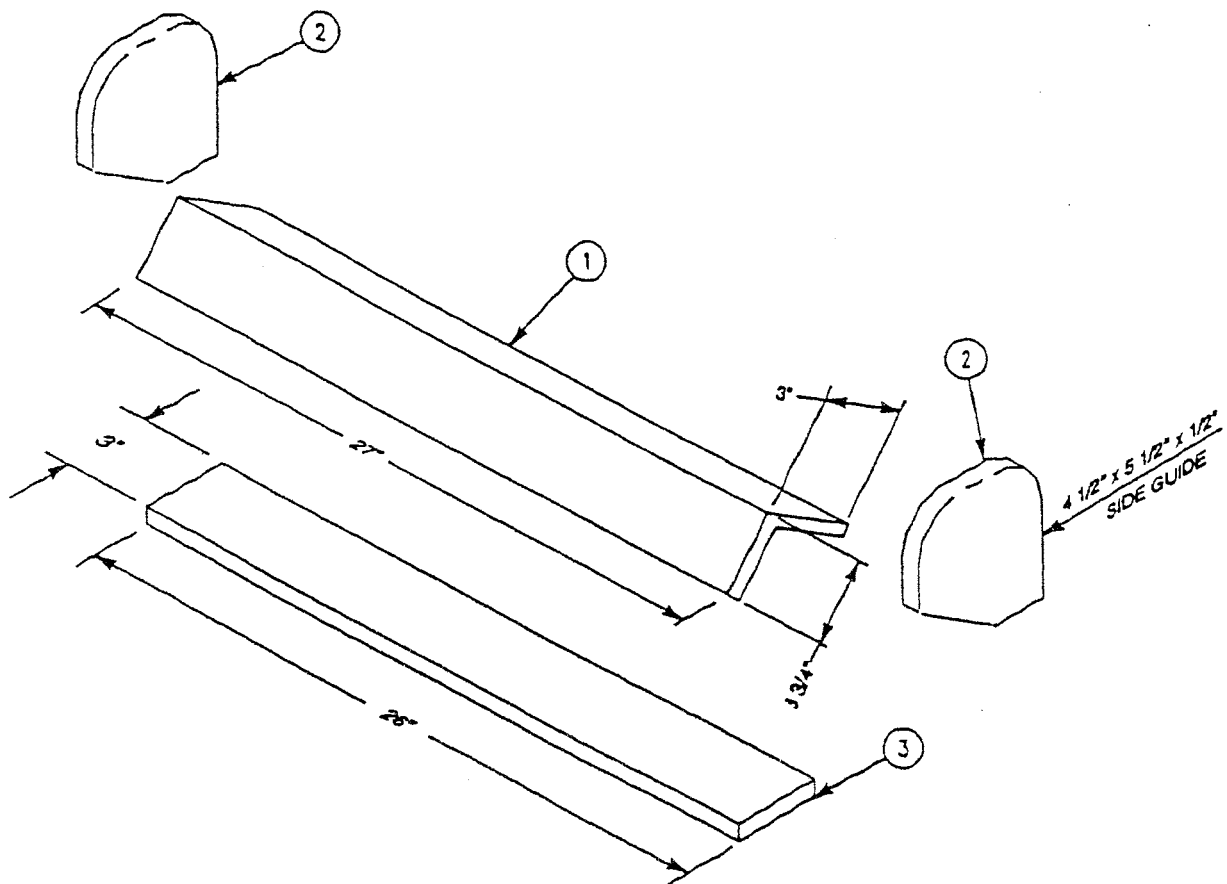
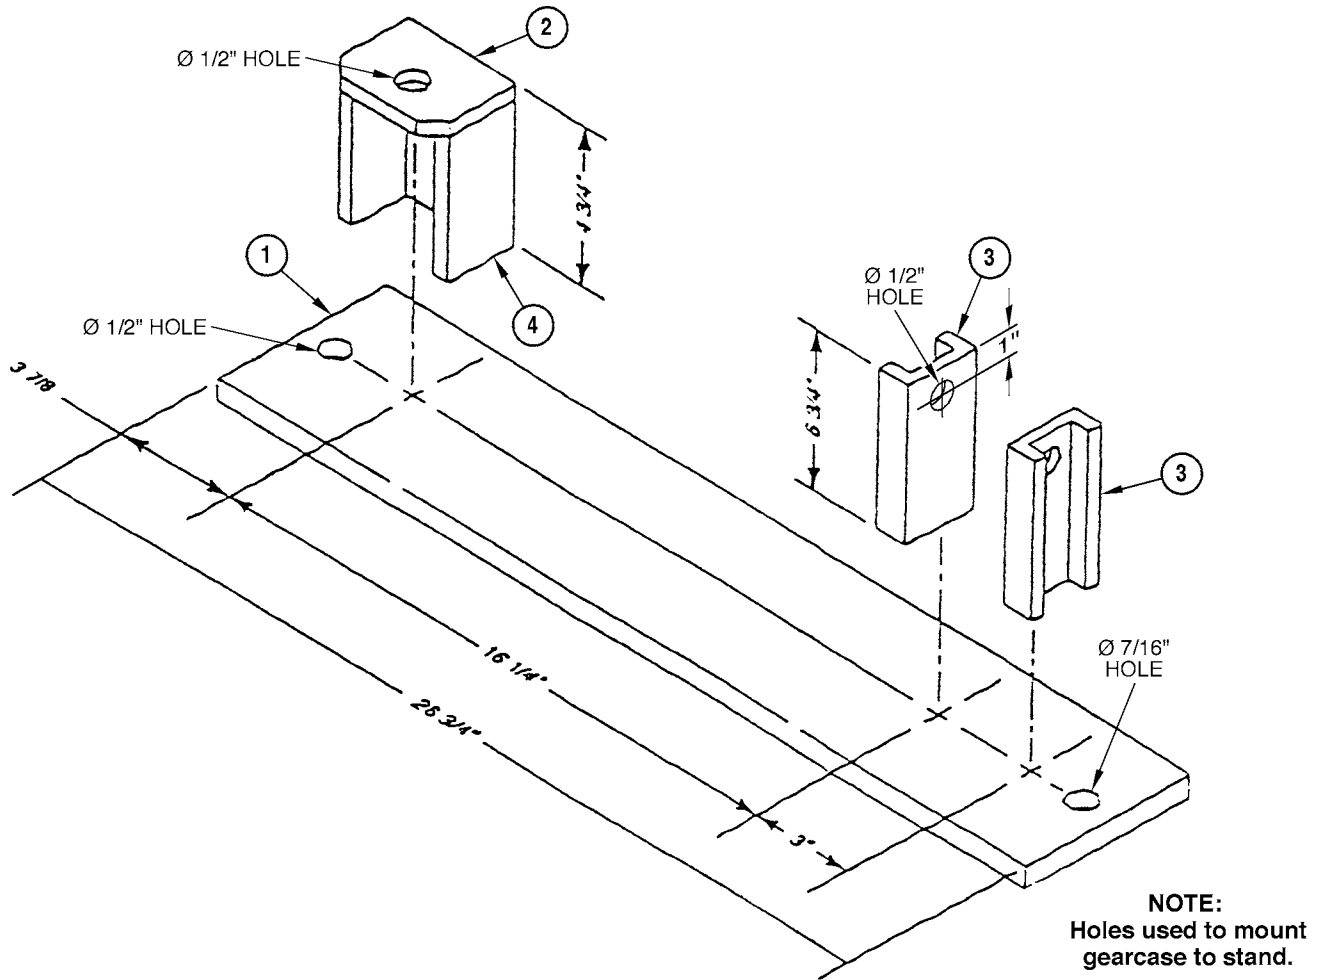
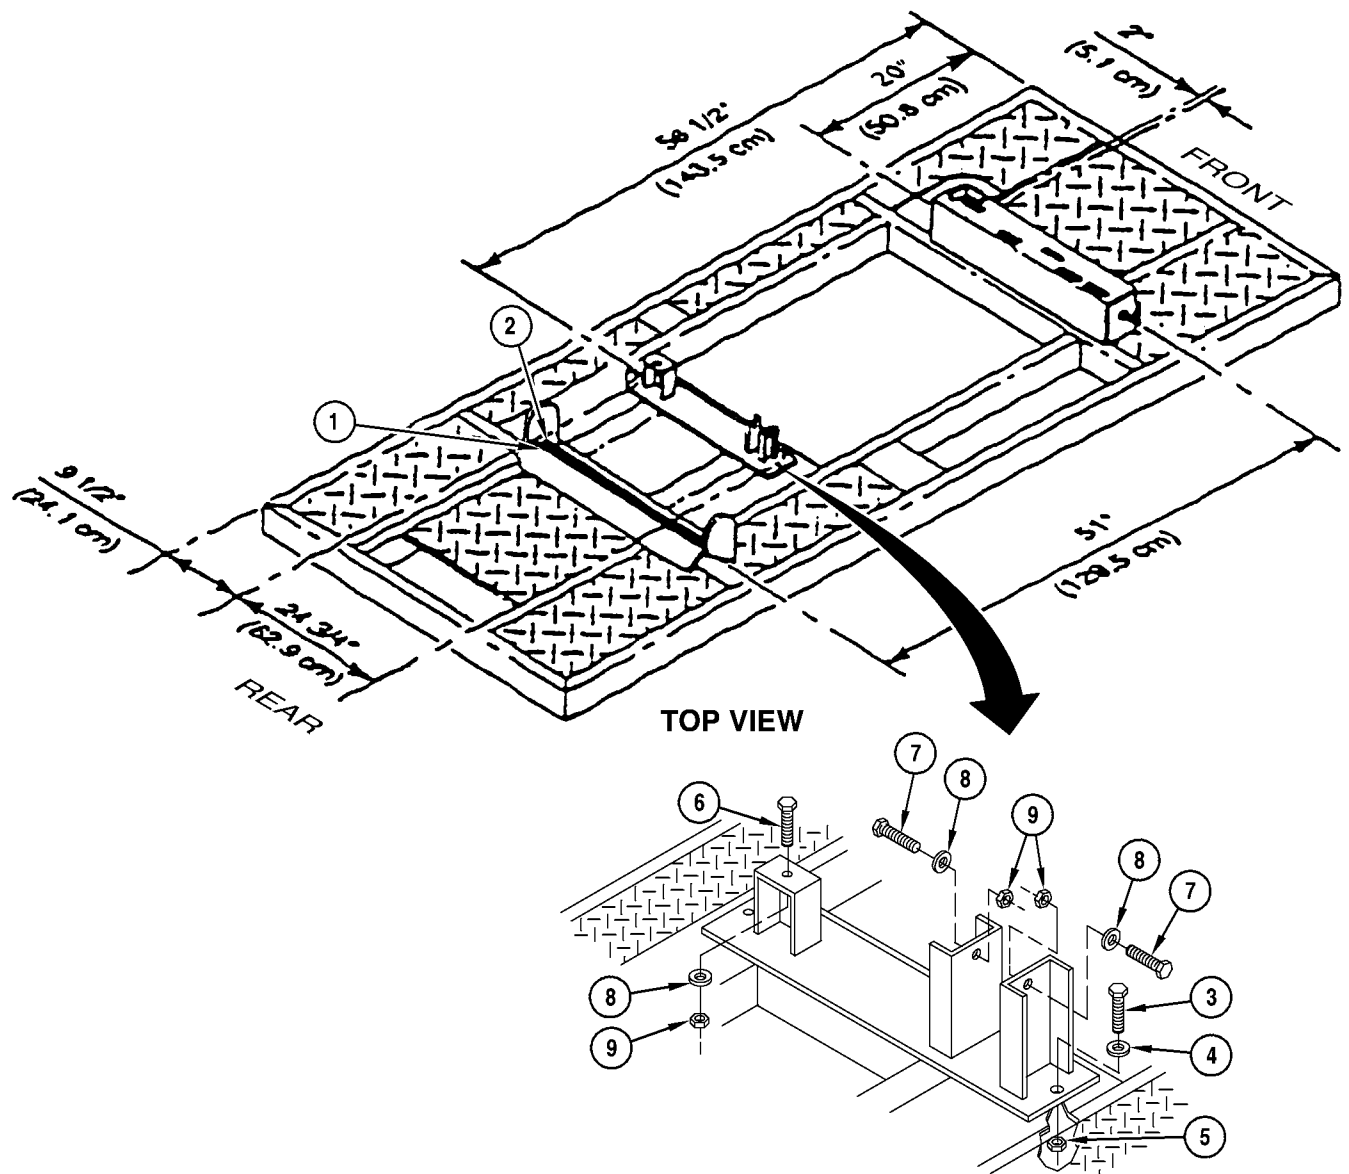

Figure 2-7. Transmission Mount Fabrication—M113A3/M548A3 FOV
Figure 2-8. Transfer-Gearcase Mount Fabrication—M113A2/M548A1
Figure 2-9. Powerplant Mount Location
1. Cut steel angle (1) so that it measure 3 inches (7.6 cm) and 4 inches (10.2 cm) per Figure 2-7. The 3-inch length should face forward.
2. Cut two side guides (2) and weld to steel angle (1), cut away external material from two guides (2) inside of steel angle (1).
3. Rubber pad (3) may be layered or a single thickness of 3 inches (7.6 cm).
1. Locate and drill two 1/2-inch (12.7 mm) holes in steel plate (1). See Figure 2-8.
2. Locate and drill a 1/2-inch (12.7 mm) hole in plate (2). Chamfer two corners (3). See Figure 2-8.
3. Locate and drill a 1-inch (2.5 cm) hole in each 6-3/4 inch (17.2 cm) channel (3). See Figure 2-8.
4. Weld plate (2) to steel channel (4). See Figure 2-7. Locate channel (4) and weld to plate (1). See Figure 2-8.
5. Center two steel channels (3) and weld to plate (1). See Figure 2-8.
1. Measure 20 inches (50.8 cm) from front of test stand frame along left and right forward spacers. Measure 2 inches (5.1 cm) to the left of the left spacer and mark the intersection of the 20 inch mark. Align the front edge of the engine mount with the three alignment marks and tack weld to frame. See Figure 2-9.
2. Measure 51 inches (129.5 cm) from centerline of welded front engine mount. Scribe a line across frame at this point. Align transmission mount angle apex with scribed line. Lower a M113A3 powerpack and connect to front engine mount with two screws (3), washers (4), and nuts (5). Continue to lower powerpack and align transmission mount with transmission. Tack weld transmission mount. Remove two screws (3), washers (4), nuts (5) and engine from powerplant test stand. Weld transmission mount onto test stand frame in accordance with welding specification (ANSI/AWSD1.2). See Figure 2-9.
3. Apply adhesive (1) to rubber (2) pad and to surface test stand frame in front of transmission mount. Allow both surfaces to become tacky. Press rubber pad to test stand frame. Repeat process until a thickness of 1 inch (2.5 cm) is established.
5. Position M113A2 or M548A1 powerpack on powerplant test stand and secure to front engine mount with two screws (3), washers (4), and nuts (5).
6. Use gearcase mount as guide, mark holes. Remove powerpack, and drill two 1/2 inch (1.27 cm) holes through powerplant test stand angle using transfer gearcase mount as a guide for holes. (See Figure 2-8).
- Measure 56-1/2 inches (143.5 cm) from front of test stand. Measure 9-1/2 inch (24.1 cm) from the left and drill 1/2-inch (12.7 mm) hole through angle. Measure 24-3/4 inches (62.9 cm) to the right of the hole and drill another 1/2-inch (12.7 mm) hole through angle. For M113A2/M548A1 only, align transfer gearcase mount with holes and secure with two screws, washers, and nuts. See Figure 2-9.
1. Drill one 3/4-inch hole, 4-1/2 inches from end of steel tubing (1) and 1-1/2 inch from the 3-inch edge (centered). See Figure 2-9.
2. Drill one 3/4-inch hole 3-1/2 inches from the other end of steel tubing (1) and 1-1/2 inch from the 3 inch edge (centered). See Figure 2-9.
3. Cut two 1/2-inch steel plates (2) so that the top is 2 inches and the bottom is 7-1/2 inches. See Figure 2-9.
4. Scribe a line 1-1/4 inches up from the bottom (7-1/2 inches) and another 2-3/8 inches from the side on 1/2-inch steel plate (2). See Figure 2-9.
5. Scribe a line 4-3/4 inches up from the bottom (7-1/2 inches) and another 1-1/4 inches from the side on 1/2-inch steel plate (2). See Figure 2-9.
6. Drill two 3/4-inch holes on 1/2-inch steel plate (2) where scribed lines intersect.
7. Bolt two brackets (1/2-inch steel plate (2)) to engine with four screws (3), washers (4), and nuts (5).